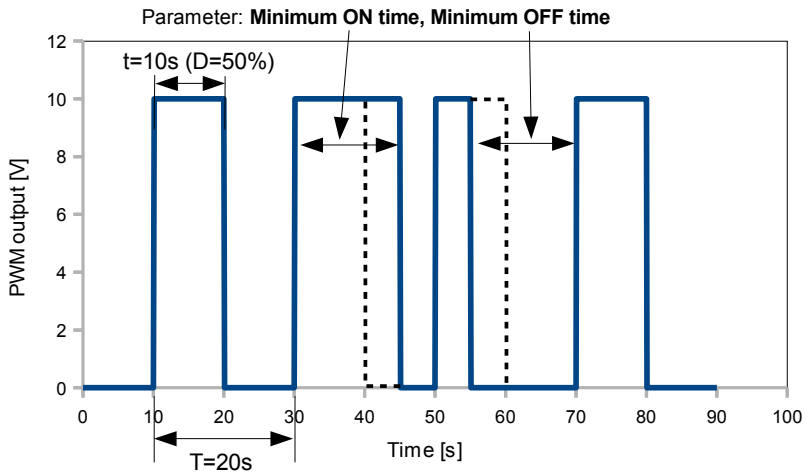

Fig. 7.87. Sample of output signal of SSR relay in PWM mode
- **Minimum ON time** - minimum duration of high state (after switching to high state, switch back is possible after **Minimum On time**), see Fig. 7.87,
- **Minimum OFF time** - minimum duration of low state (after switching to low state, switch back is possible after **Minimum OFF time**), see Fig. 7.87,